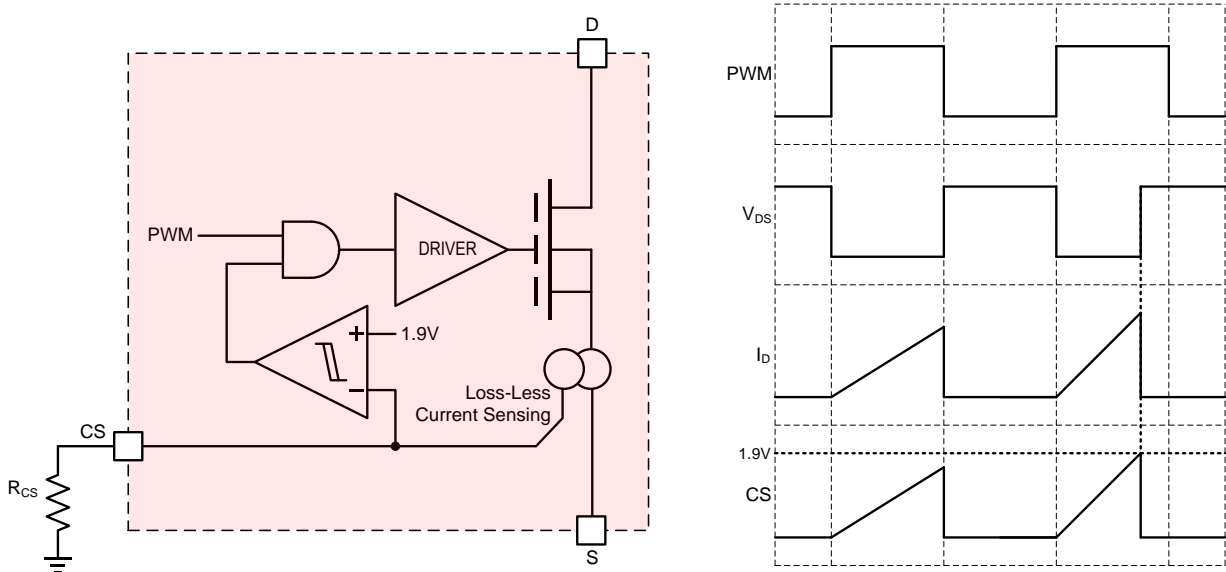

Fig. 21. Current Sense Circuit and Timing Diagram
In many systems implemented with a peak current mode control or over current protection (OCP) functions, the current flowing through the power FET needs to be sensed. To sense the current, most solutions use a current-sense resistor in series with the FET and it increases power loss and introduces more parasitic inductance into the power loop. ISG6108 employs a current-sense circuit without any external resistor to sense the current as shown in Fig. 21. The loss-less current-sense circuit converts the current flowing through the GaN FET to the output current signal of CS pin with a conversion ratio of 2240:1 (typical). The output current of CS pin can be converted to the voltage by a resistor,  $R_{CS}$ , placed between CS pin and ground. The value of  $R_{CS}$  can be adjusted to provide the current-sense voltage with a proper voltage range for various controllers. The voltage on CS pin,  $V_{CS}$ , is determined by equation (1).
where  $I_D$  is the drain current of GaN FET. Fig. 21 shows the switching timing diagram of the current sense output.
The ISG6108 provides a cycle-by-cycle over current protection based on the current-sense signal,  $V_{CS}$ , to protect the GaN FET. As illustrated in the timing diagram of Fig. 21, when the CS-pin voltage exceeds 1.9V (typical), the GaN FET is turned off. GaN FET will be turned on again at the next rising edge of PWM signal. The current limit by OCP can be calculated by equation (2).